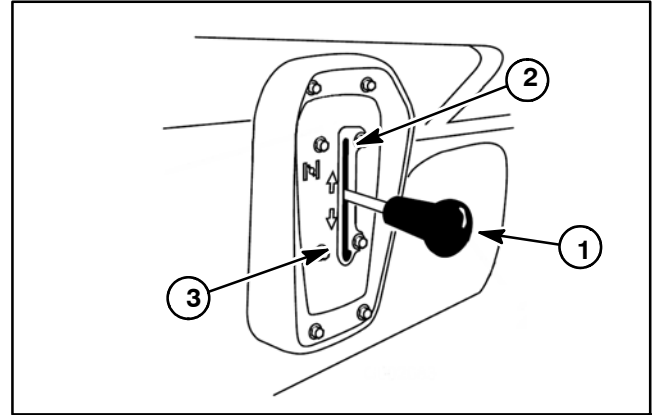

Figure 3
2. Move shift lever to the neutral position (Fig. 3).